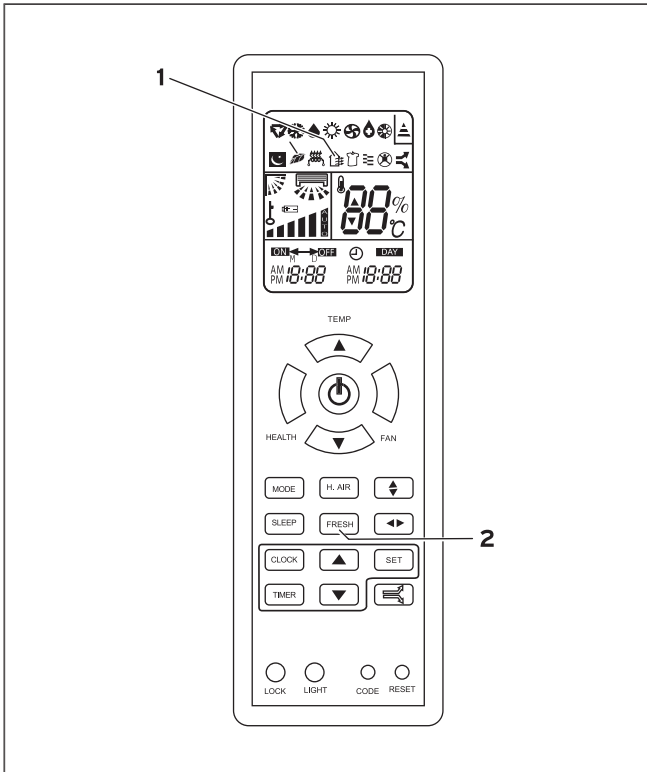

Fig. 9.1 Remote Control.
- Press the Fresh button on the remote control (see Figure 9.1)